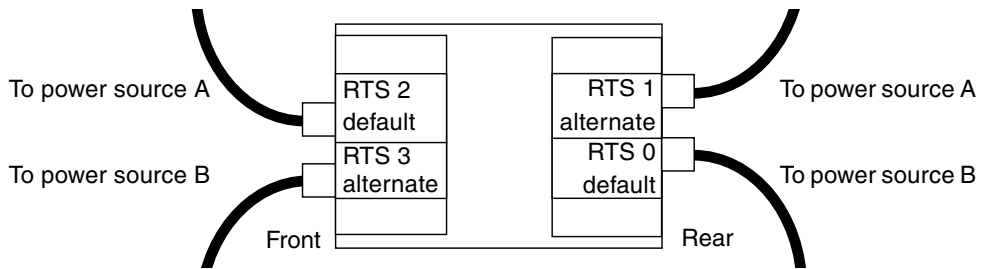

FIGURE A-1 Two RTU Assemblies and Two Independent AC Power Sources
- In configurations with two RTU assemblies and two independent AC power sources there will be four cables to connect, two on the front, and two on the rear of the system (FIGURE A-1).